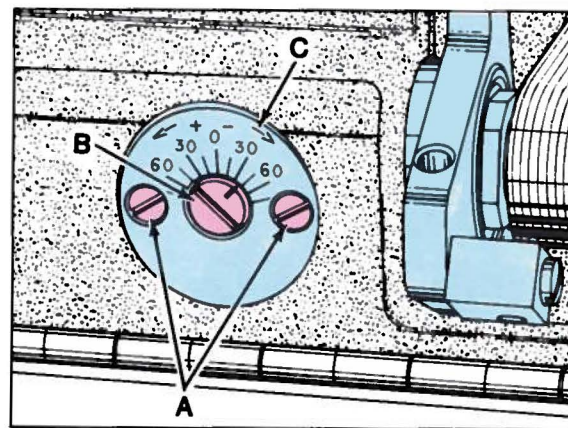

Fig. 9
Machine is equipped with a quick adjustable looper avoid to accommodate extreme differences in needle sizes. If looper avoid requires re-setting, loosen two screws (A, Fig. 9) and turn eccentric stud (B) towards the plus side (counterclockwise) for more looper avoid or towards the minus side (clockwise) for less looper avoid. When desired setting is acquired, tighten screws (A).
**NOTE:** Whenever looper avoid is changed, always recheck "LOOPER SETTINGS". Numbers on plate (C) are for reference only and have no value as to the exact amount of looper avoid.